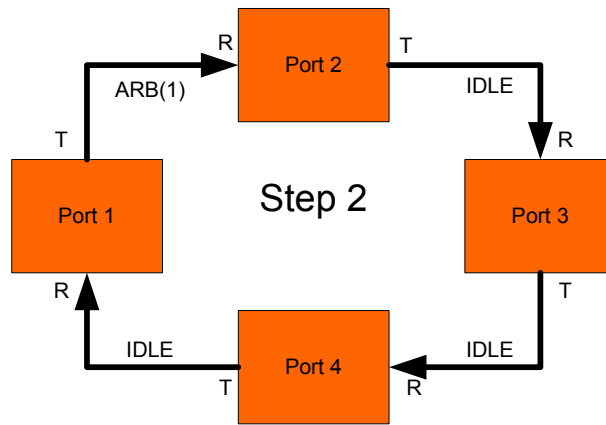

Figure 26 Arbitration Step 2
Step 2 (Figure 26) shows Port 1 arbitrating for access to the loop by changing its current fill word to ARB(1) and substituting ARB(1) for every received IDLE. If Port 1 receives any ARBs, it needs to check the priority of these ARBs and then either discard if they are a lower priority than ARB(1) or substitute if they are a higher priority.